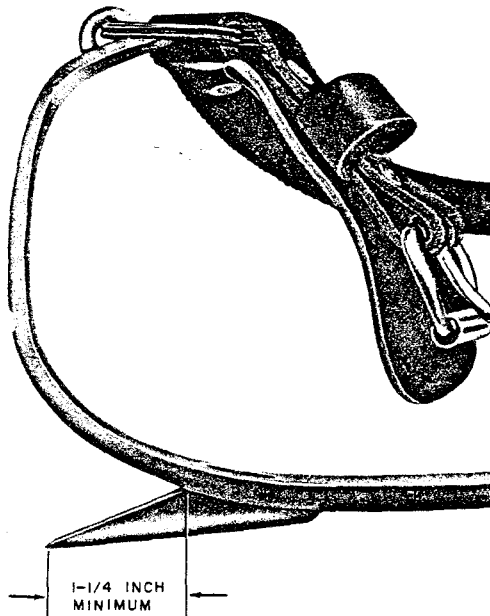

Fig. 22—Gaff Sharpened to Minimum Length
7.07 When climbers require sharpening and the desired sharpness to pass the cutout test cannot be obtained by honing (paragraphs 7.02 through 7.05), the employee should exchange them for a pair of factory sharpened climbers. Remove the E climber foot strap (paragraph 3.11), the B climber straps (paragraph 3.12), pads, and sleeves and equip the climbers to be returned with gaff guards. Permanently attached foot straps should remain on the returned climbers. The solid ring will then be replaced with a split ring. Tape or otherwise tie them together. Figure 22 illustrates a climber that has been machine sharpened a number of times to the *minimum length that shall be used*.